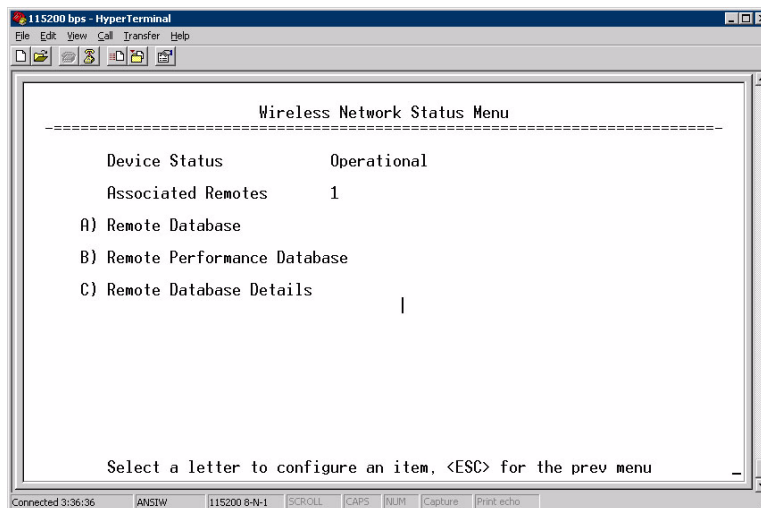

Figure 3-91. Wireless Network Status Menu (AP)
- **Wireless Network Status**—Current AP association state and MAC address. (See Figure 3-91 on Page 120 for details.)